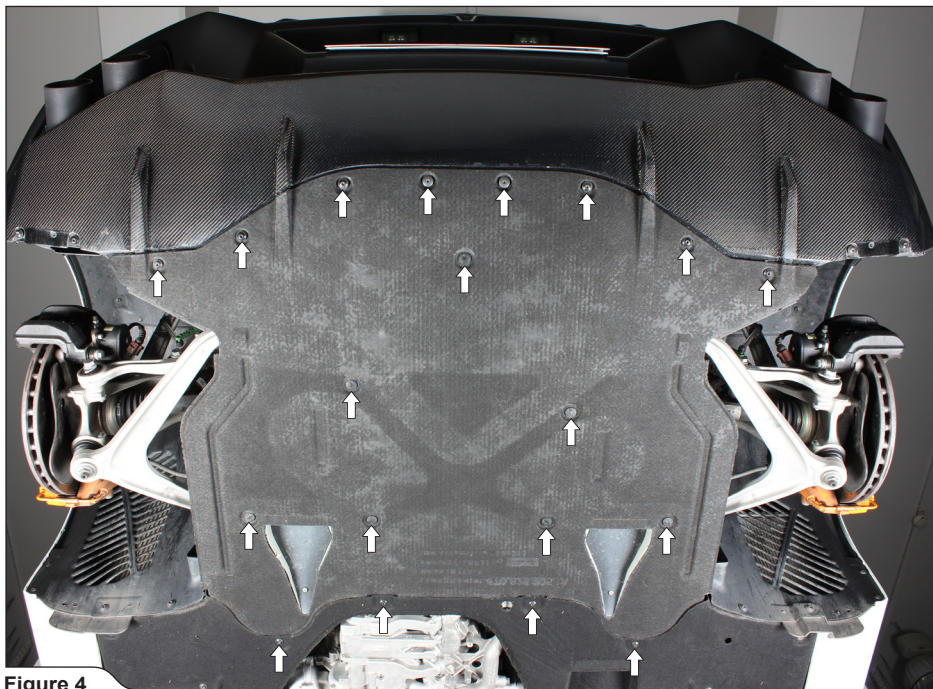

Figure 4
2. Unscrew the marked bolts, undo the plastic fasteners and remove the under engine panel off the vehicle (**Figure 4**).